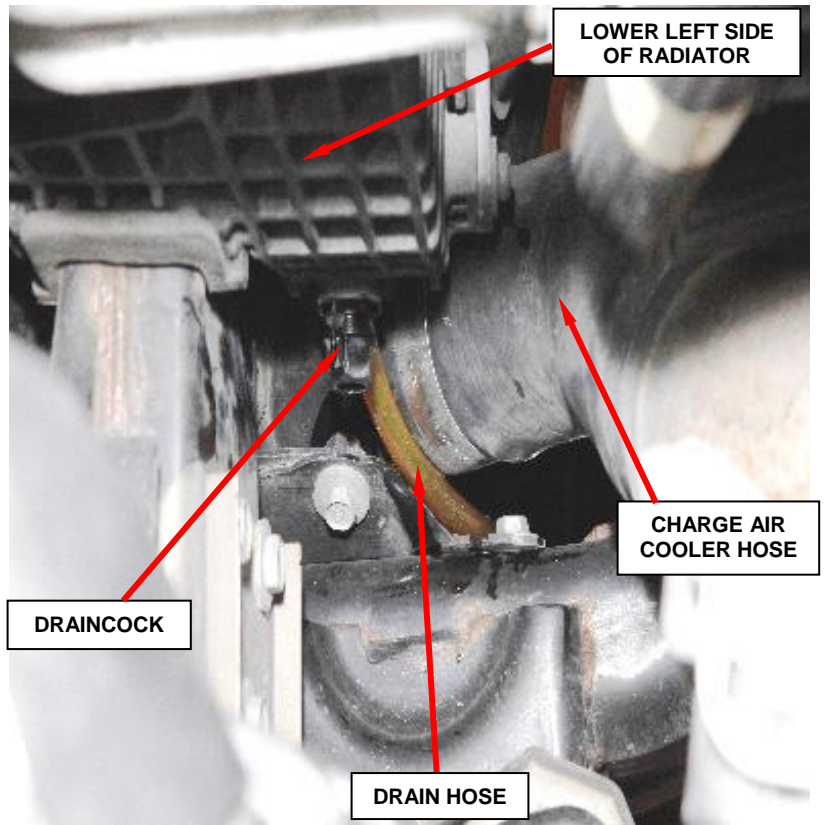

Figure 5 – Primary Radiator Draincock
e. Attach a clean drain hose and open the radiator primary draincock located on left side of radiator and drain the radiator. **Save the coolant for inspection** (Figure 5).